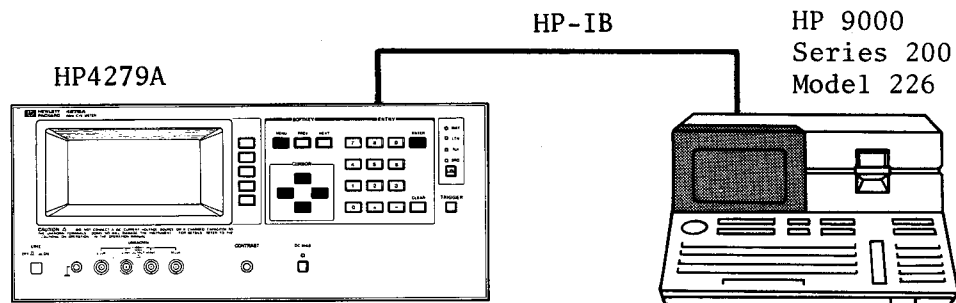

Figure 1-7. EEPROM Calibration Data Update Setup
4. Connect the HP-IB cable between the HP-IB connectors on the 4279A's rear panel and on the controller's rear panel (select code is 7). Figure 1-7 shows the setup.